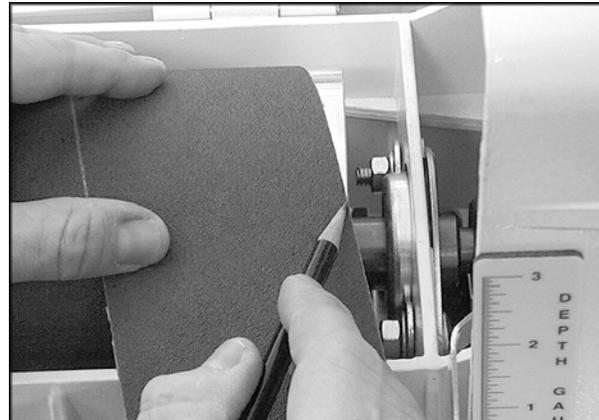

Figure 10
5. Mark trailing end of strip where it crosses right (inboard) side of drum (Figure 10).